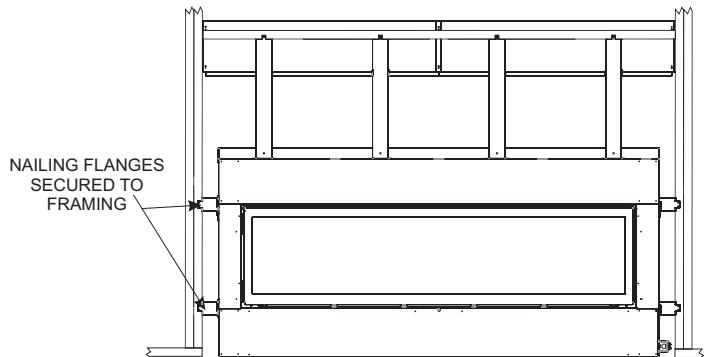

Figure 28
NOTICE: For finishing to top of fireplace, refer to **Figures 28** and **30**.
- Secure fireplace to framing with nailing flanges. Preset depth to suit facing material (flush or 1/2 inch set back depths). See Figure 28.